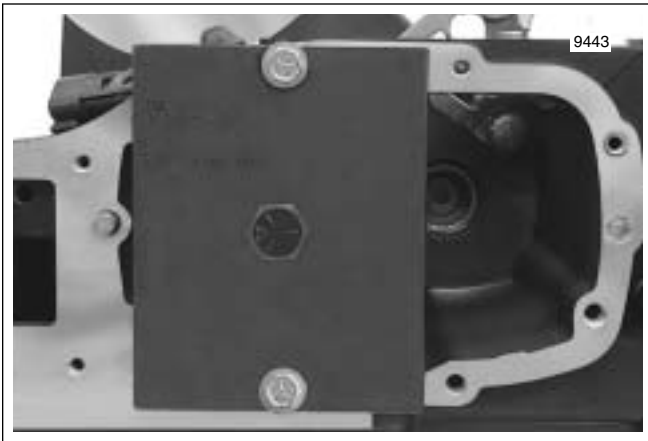

Figure 7-29. Main Drive Gear Removal (Right Side)
4. Slide 12 inch bolt through center hole in cross plate until threaded end exits left side of transmission case. See Figure 7-29.